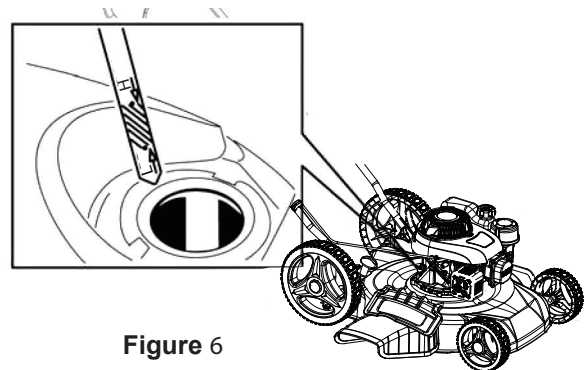

Figure 6
1. Remove dipstick, wipe it clean, and fully re-insert it, check to see if oil is needed by the oil mark that is left the dipstick. (Figure 6)
2. Remove the dipstick and check the oil level (Figure 6) If the oil level is low on the dipstick, slowly pour oil into the oil fill hole to raise the oil level to the full range on the dipstick. Do not overfill. Max fill 13.5oz (0.4 L), type SAE 30 weight oil with an API service rating of SF or higher.